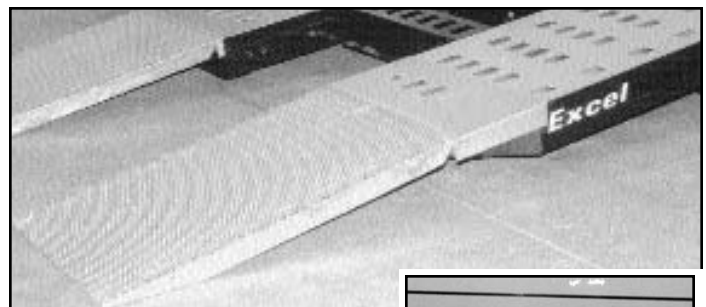

Figure 62
7. Just prior to mainframe reaching floor, release “unlock” button. Continue lowering mainframe until lock arm engages bottom lock arm stop. (See Figure 62 and its inset.)